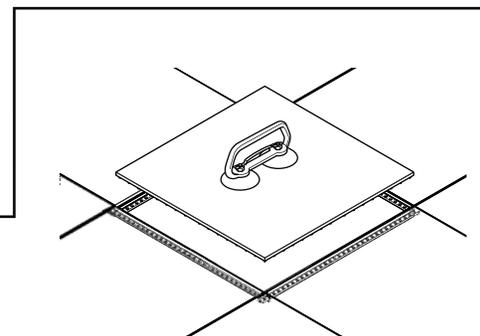

Figure 10
- 2) When lifting and replacing the Haworth Porcelain Flooring System use a rubber suction cup lifter such as a raised access floor panel lifter (Figure 10).
- 5) To access the subfloor multiple porcelain floor tiles may need to be removed (Figure 10).